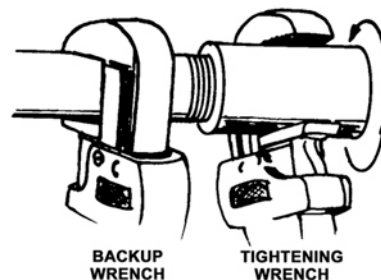

Figure 1-56. Using a back-up wrench.
4. Select two pipe wrenches. One, called a backup wrench, holds the pipe or fitting in place so it will not turn. This wrench takes the place of the vise (fig. 1-56).
7. Tighten the remaining piece of pipe using the pipe wrenches (fig. 1-56).